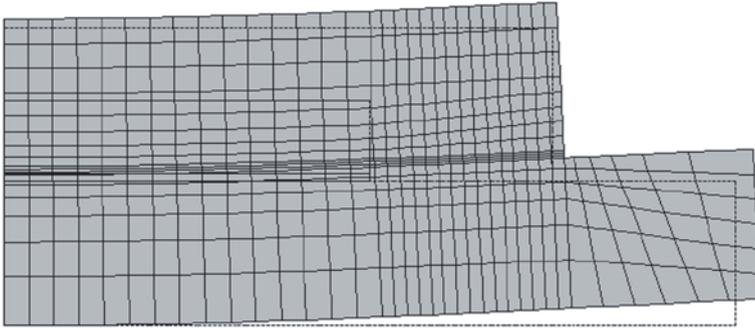

Fig. 8.60 Deformed shape of the electronic package under thermal load
- The deformed shape is shown in Fig. 8.60 as it appears in the *Graphics Window*.